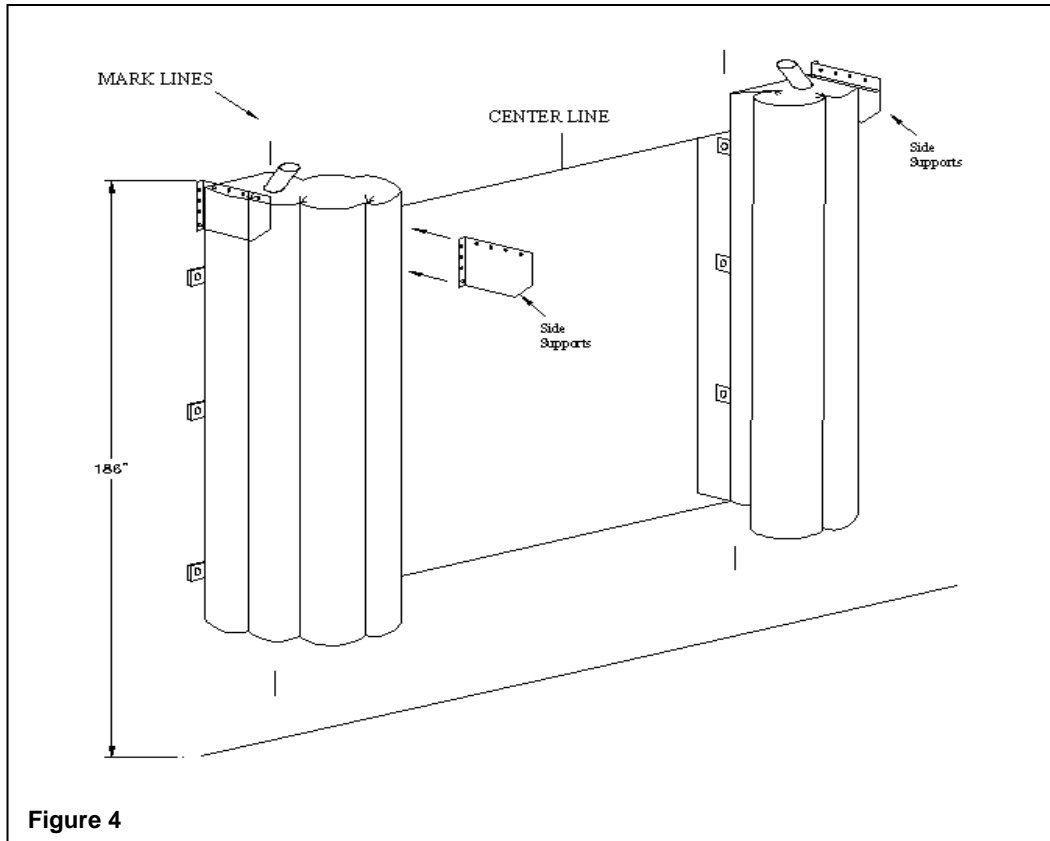

Figure 4
Place inside edge of side support on mark made in step 1. Mount galvanized side support at 186" from the grade to the top of the support. Fasten using four (4) 3/8" x 1-7/8" sleeve anchors. (Repeat for other side) **Figure 4**